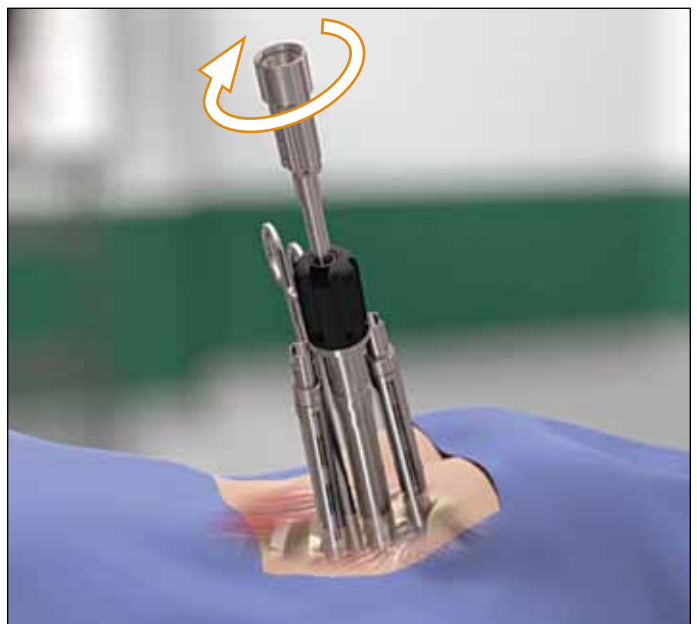

FIG. 28
- Provisionally tighten the Set Screw. (FIG. 28)